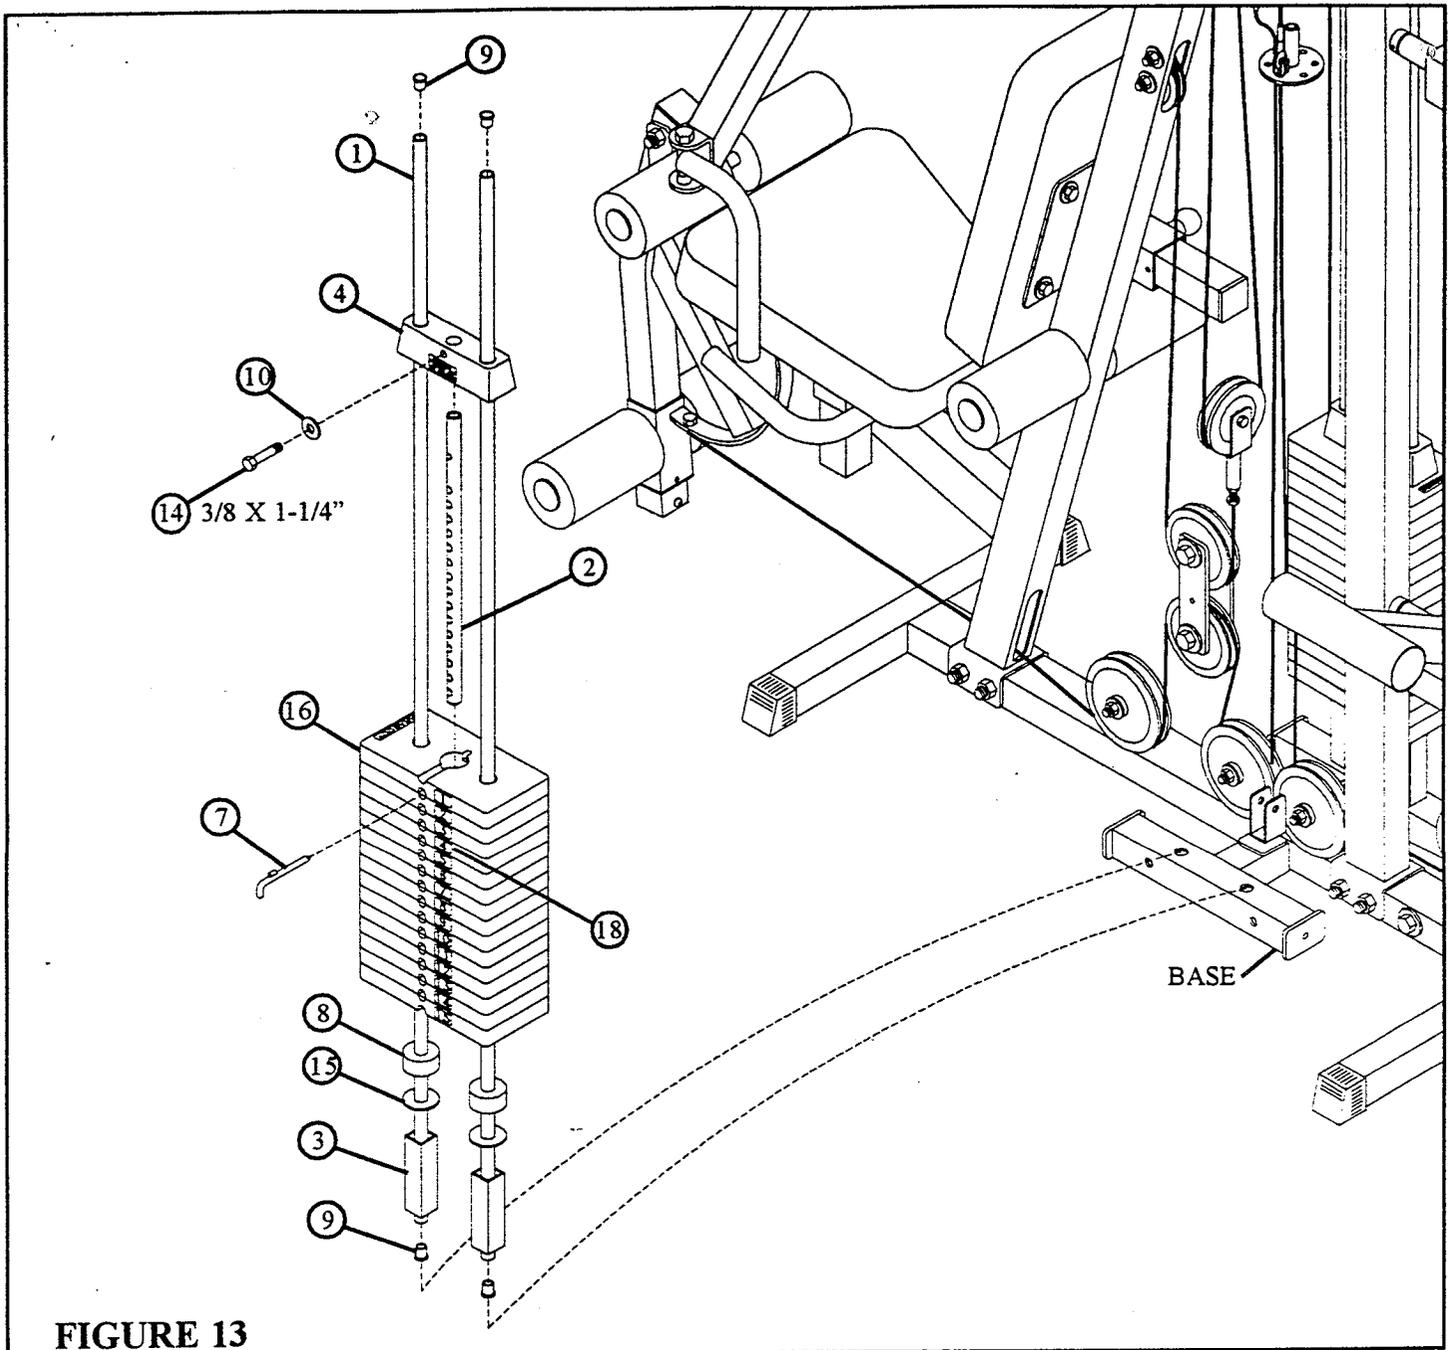

**FIGURE 12**
- **LOOSEN** the bolts holding the **TOP BOOM** to the **UPRIGHTS**. Bolts will have to be removed to install **GUIDE RODS (1)**. See **FIGURE 12**.